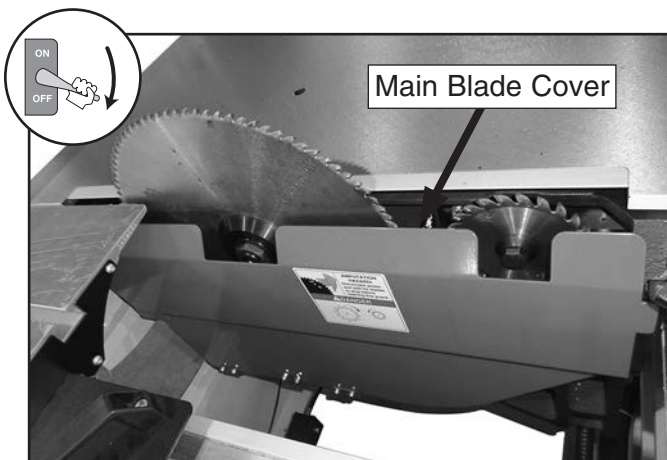

Figure 88. Main blade cover in closed position.
5. Pull blade cover away from blade to disengage magnetic catches (see **Figure 88**).